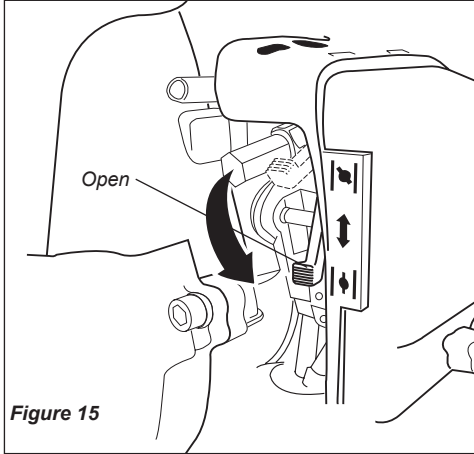

Figure 15
5. When the engine starts, slowly move the choke lever to the "OPEN" position. See Figure 15. (If the engine stops after the initial start, close the choke and restart.)